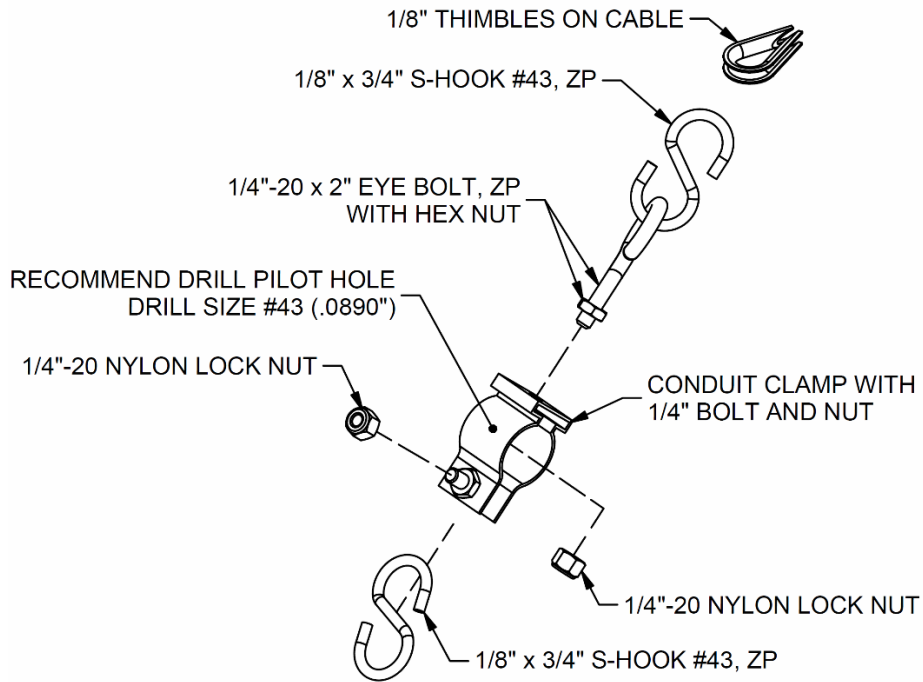

Figure 1: Assemble Clamp Fittings
1. Assemble cable clamp fittings, as shown in Figure 1. Leave hardware loose.